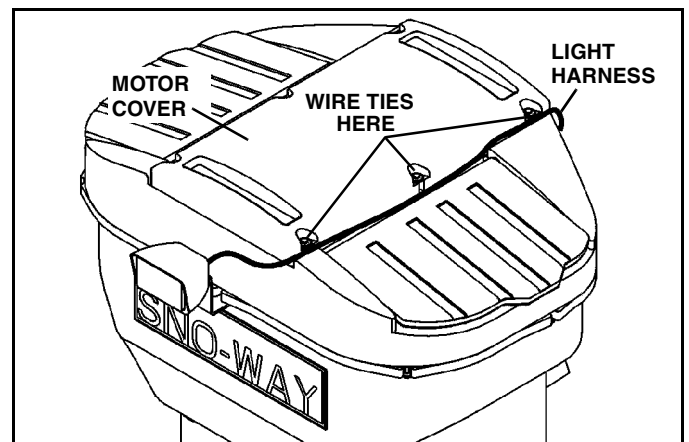

Figure 1-3
2. Route Light Harness to the top of Spreader, then along the "channel" between the motor cover and either the left or right side hopper lid to the front of the hopper. (See Figure 1-3).